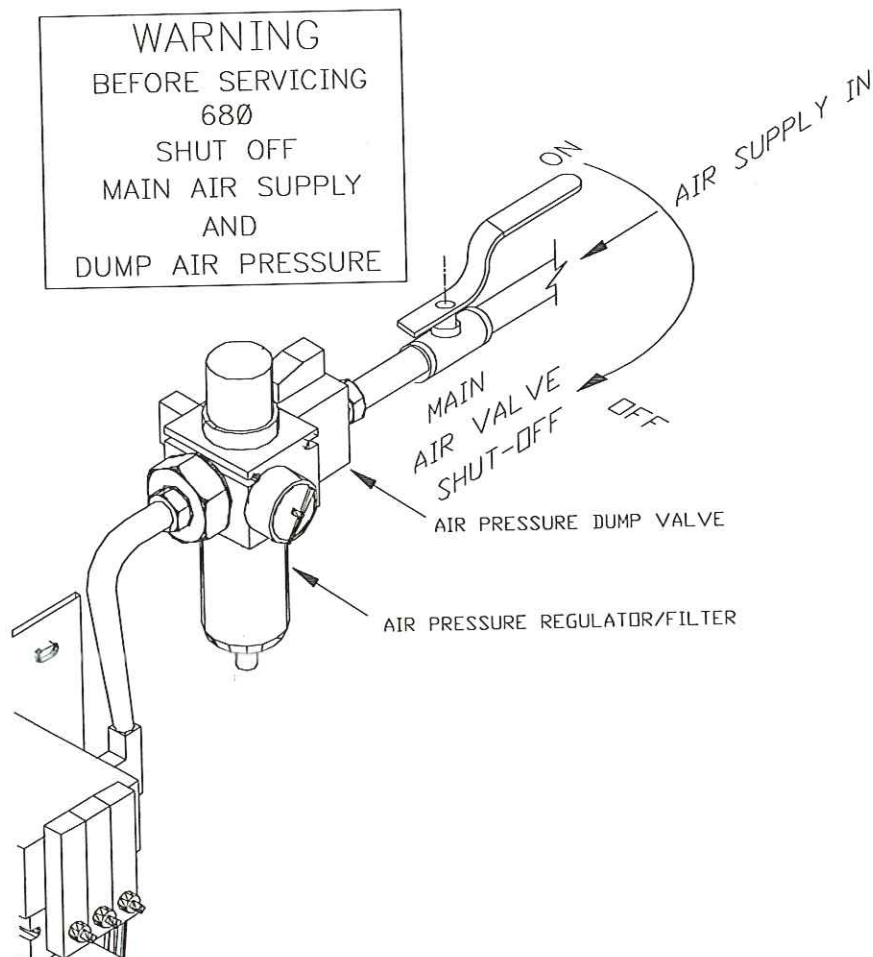

Figure 1-2: Main Air Supply
4. Before working in the area of a pneumatic device, turn off the air supply (see Figure 1-2) and bleed pressure from the device.